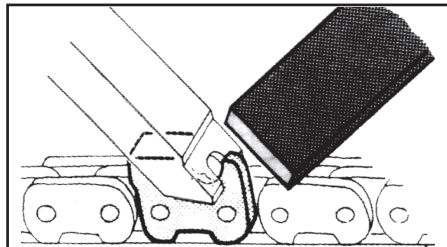

Fig. 24
7. Finally, round off the depth gauge (Fig. 24).